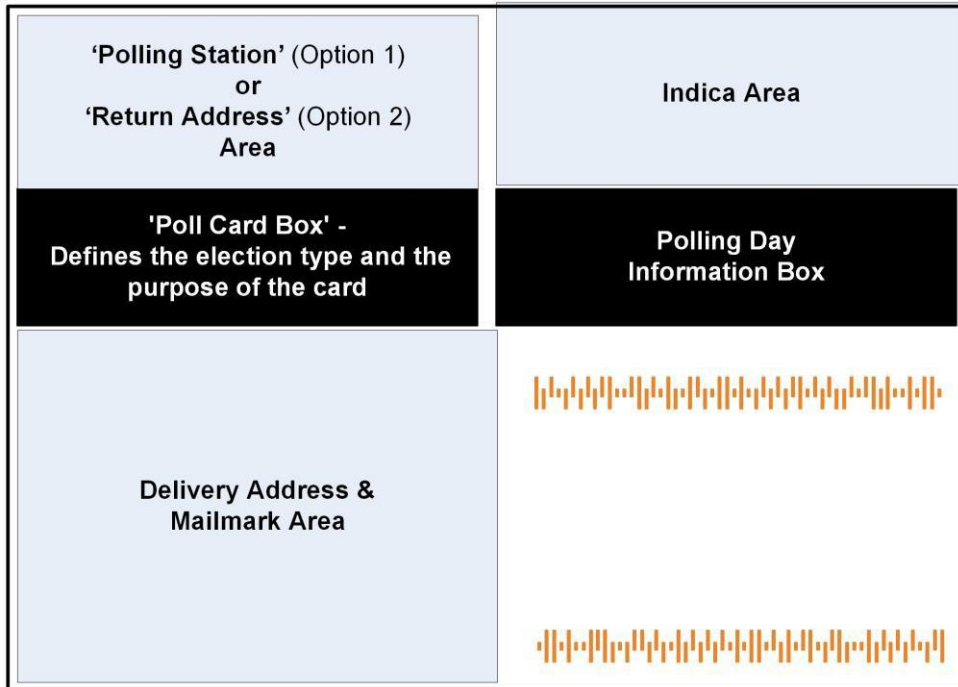

Figure 44: Poll Card Layout – Front
- a. The design requirements for the front of the Mailmark poll card are summarised below and illustrated in Figure 44.
| Poll Card Front Artwork | General | Only the poll card information boxes, Indicia, Mailmark and Delivery Address block shall be printed on the front of the mailer as illustrated in Figure 44. | M |